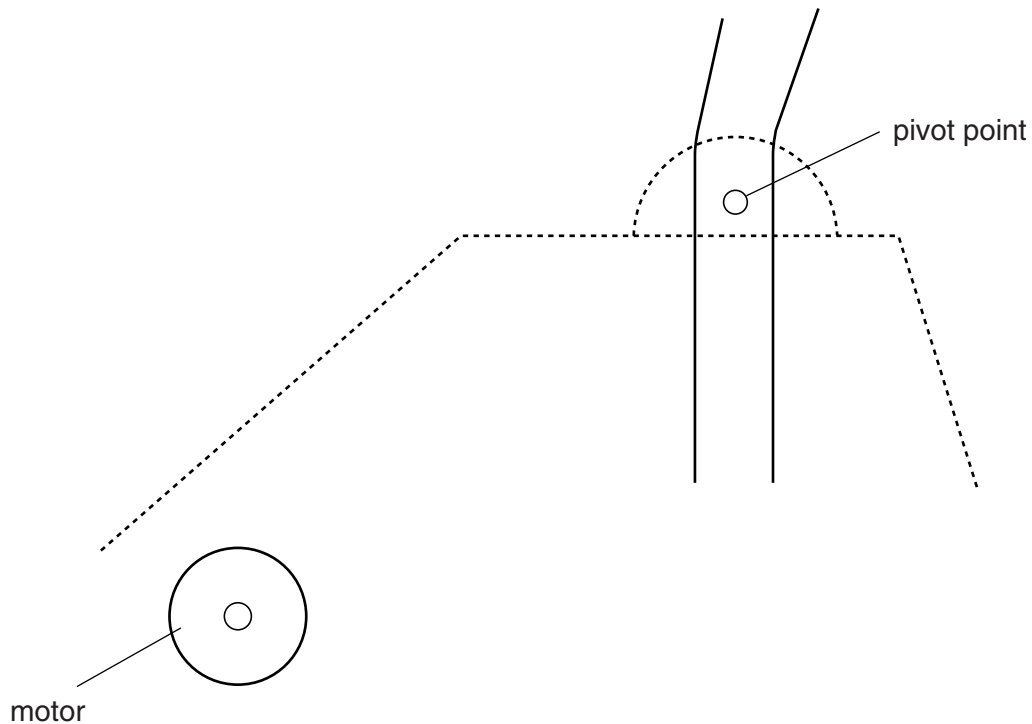

Fig. 7
- (b) Complete Fig. 7 to show the missing linkage mechanism from the motor to the palm tree in order to produce the required motion. Label the diagram. [5]